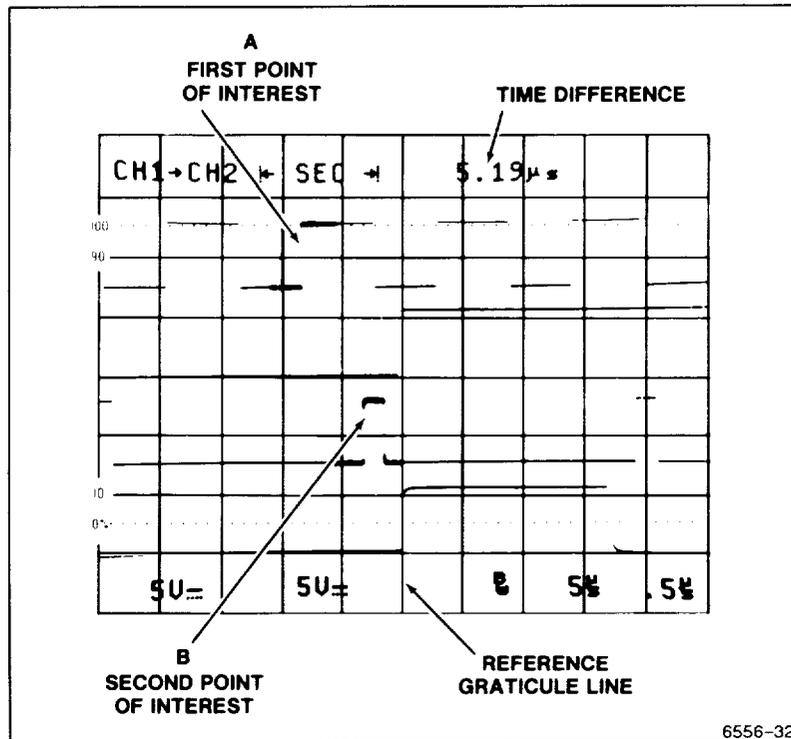

Figure 5-9. Time difference between the two delays.
7. Set the ← OR DELAY control so that the reference-delay Intensified zone is positioned at the first point of interest (point A, Figure 5-9) and the B sweep display of that point is at the center vertical graticule line.
8. Set the → control so that the delta-delay intensified zone is positioned at the second point of interest (point B, Figure 5-9) and the B sweep display of that point is at the center graticule line. The time difference between the two points of Interest is displayed at the top of the screen.